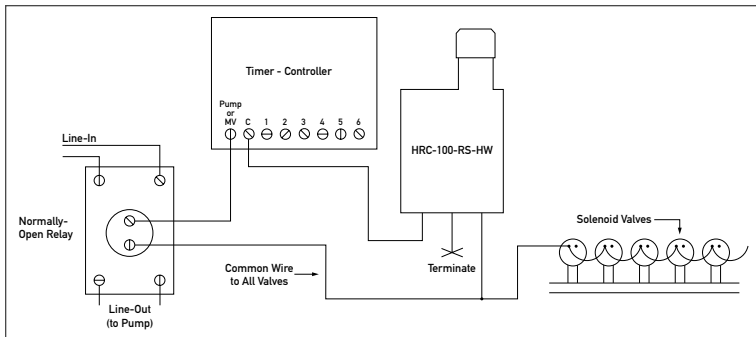

Figure 3: Wiring
- B. 24-Volt Solenoid Valves with booster pump (See Figure 3). Locate the common wire to the solenoid valves and the common wire lead to the coil of the relay that starts the pump. If these two wires are connected to the "common" terminal on the controller, disconnect both of them. Twist these two wires together along with one wire from the sensor and secure with a wire nut. Attach the other wire of the sensor to the "common" terminal on the controller. Note: The pump circuit output must be 24 volts in this situation if different do not proceed.